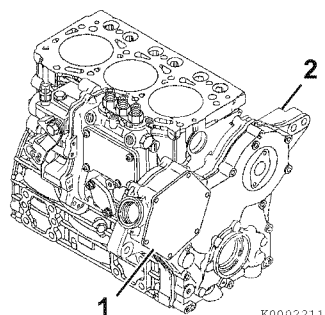

Figure 7-17
13. Remove the fuel injection pump drive gear access cover (1, **Figure 7-17**) from the gear case cover (2, **Figure 7-17**).